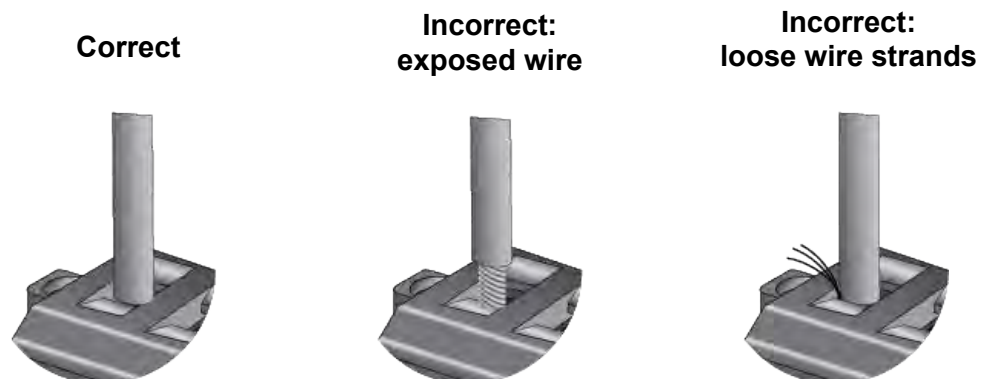

Figure 57. Verifying the Wires on the ALARM IN / ALARM OUT Plug
- Verify that there are no exposed wires or loose wire strands. Refer to Figure 57.